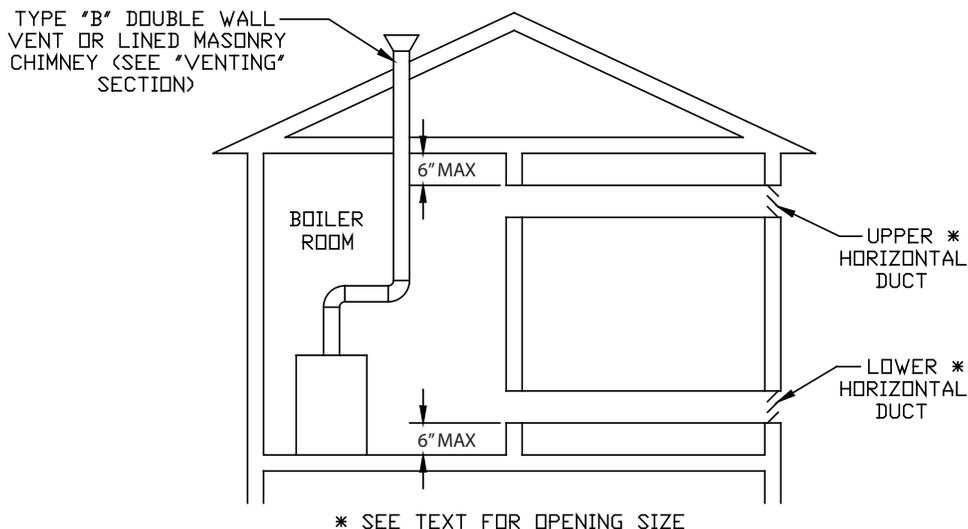

Figure 6-5: Outdoor Combustion Air Method: Using Horizontal Ducts into Boiler Room
- B. Openings to outdoors via horizontal ducts (Figure 6-5) - Each opening must have a free cross sectional area of 1 square inch per 2,000 BTU/hr. of the total input of all gas fired appliances in the boiler room. Minimum opening size is 3 inches.